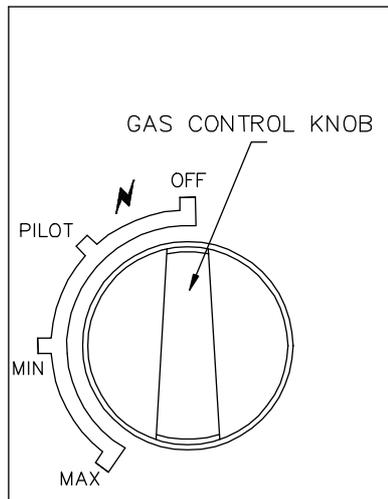

FIGURE 1
**Lighting the Appliance** (See Figure 1)
- 2 The 526 Convector can be fitted into fireplace openings which are large enough or can be altered to accept this appliance. The dimensions are shown in Figure 1. If the fireplace has to be altered a lintel will be required to support the masonry over the opening. The fireplace opening should be formed from or lined with non-combustible material and set within a wall with a non-combustible surface.